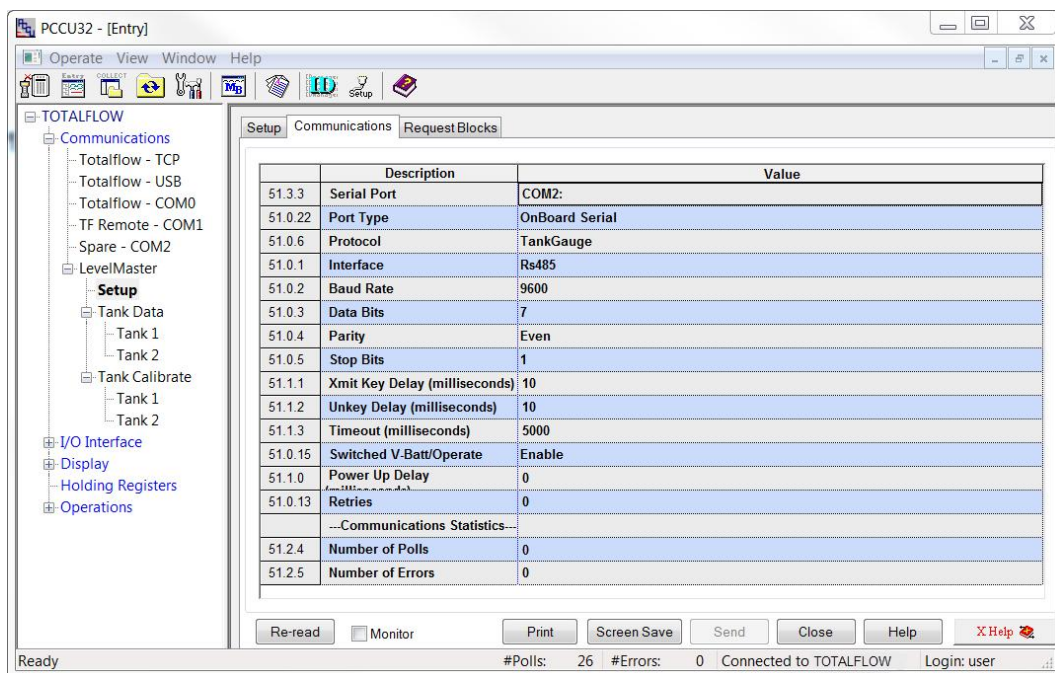

Figure 48: LevelMaster application Communications tab
7. Select the **Communications** tab (Figure 48). For the purpose of these instructions, it is assumed that COM2 will be used.